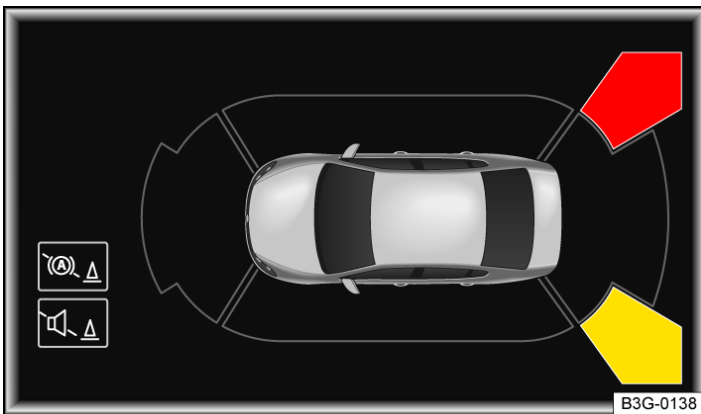

Fig. 2 On the Infotainment system screen: Rear Traffic Alert display.
- Observe the acoustic signals and text messages on the instrument cluster display. Coloured segments show the area behind the vehicle on the Infotainment system screen → Fig. 2.